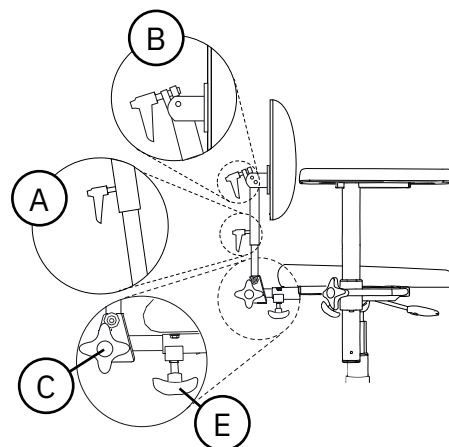

Figure 5.42. Medic backrest mechanism.
Medic can be adjusted in height (A), angle of back rest mechanism (B, angle of back recliner (C) and depth (E), see Figure 5.42. The back recliner can be adjusted in the range of 15° forward to 45° backwards.